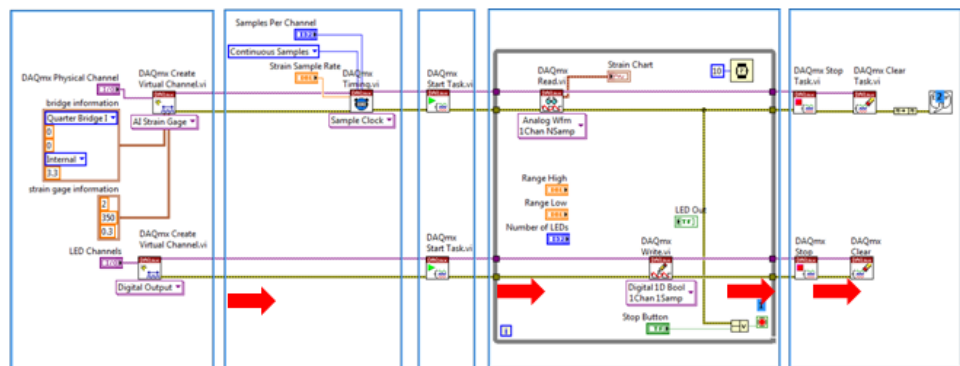

Figure 30. Wiring the task and error wires through dictates the flow of your code.
15. Wire the task and error wires through each of the DAQmx VIs like in Figure 30.